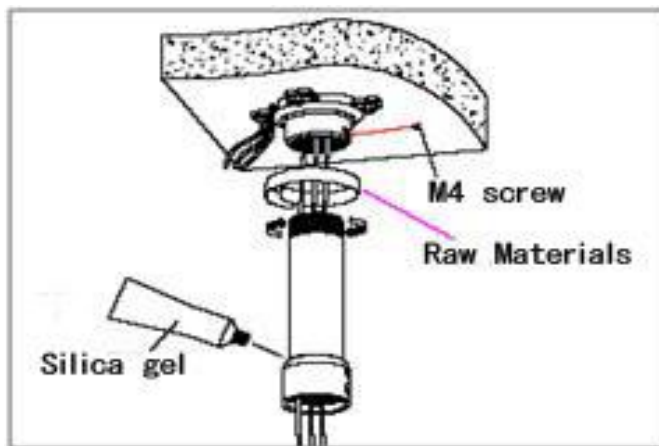

Fig 2.12
c. As shown in the fig 2.12, tighten the boom with electrical wire and cable through it on the base of ceiling and screw up the M4 screw.